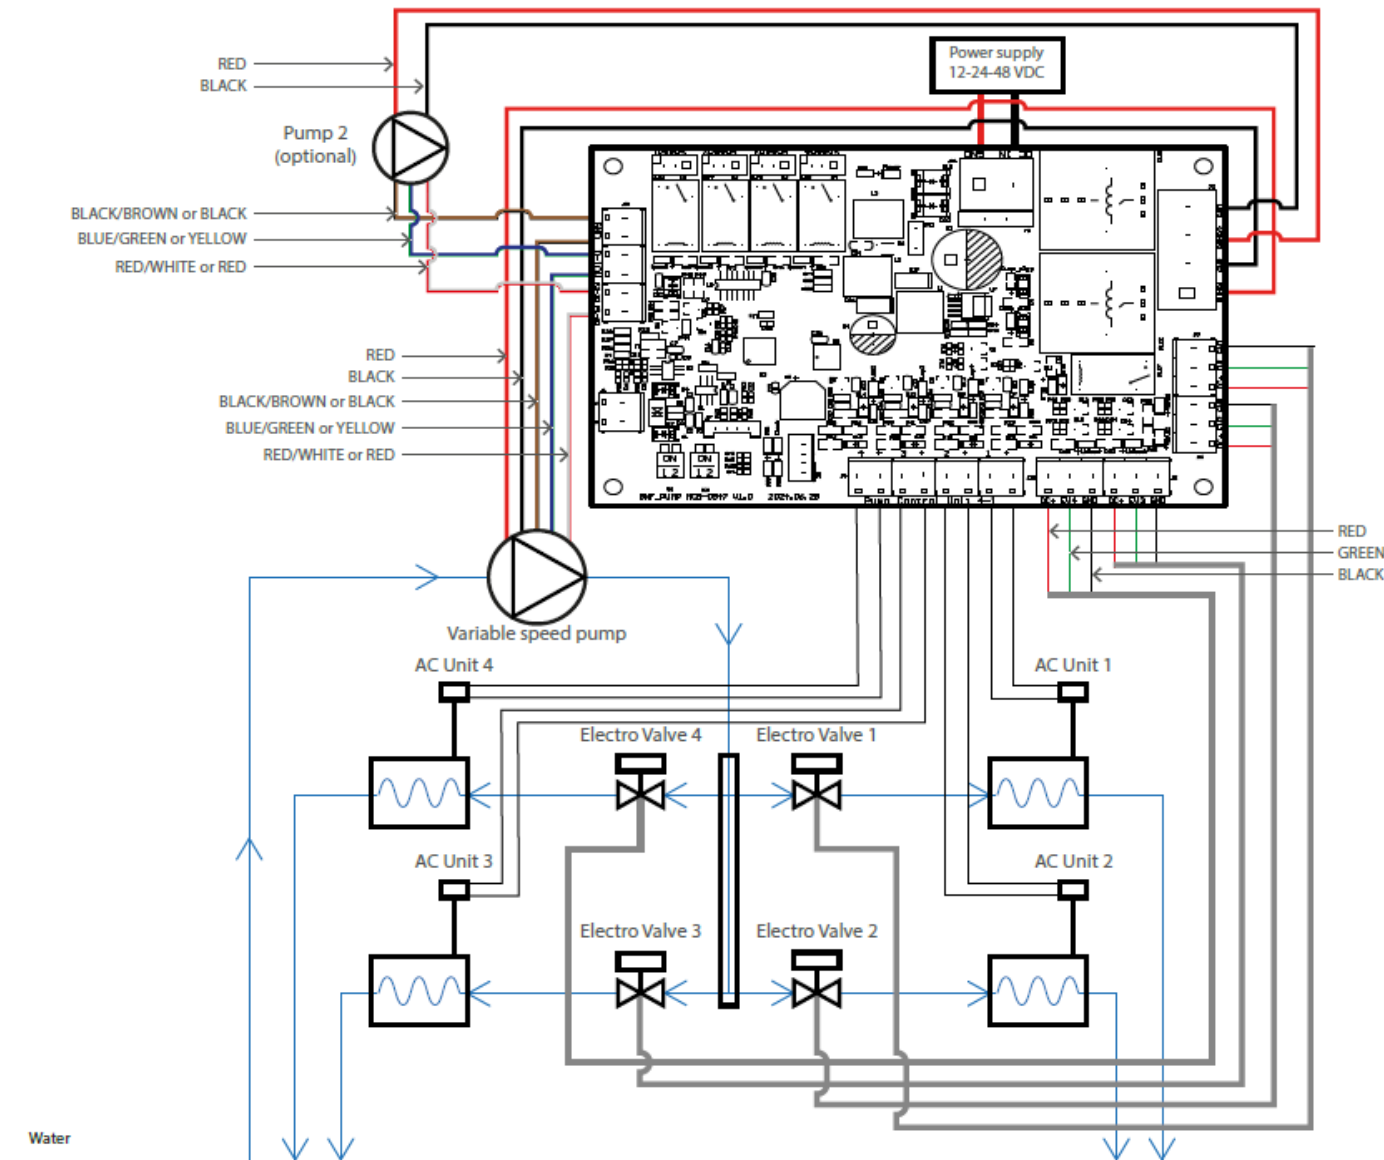

Figure 3: Efficient Flow AC controller, hydraulic and electric schematic
- Figure 3: Hydraulic and electric schematic